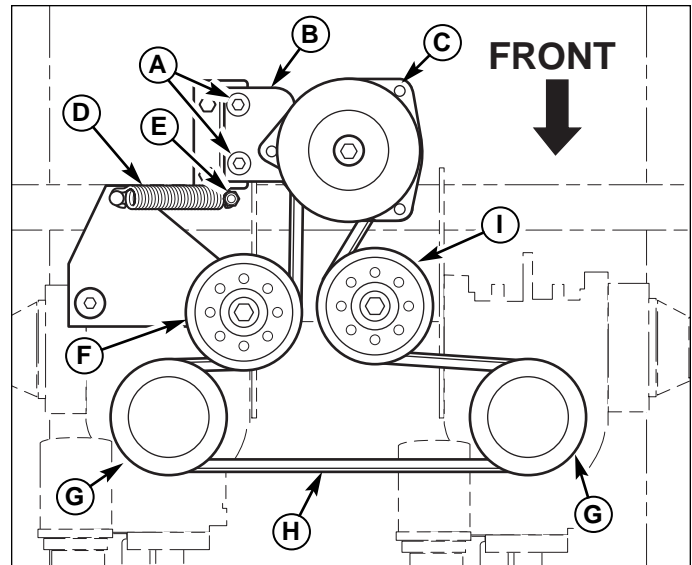

Figure 29. Transmission Drive Belt
3. Remove the clutch anchor bolts (A, Figure 29) that fasten the clutch anchor pad to the anchor.
5. Remove the spring anchor nut (E) and remove the belt tension spring (D).